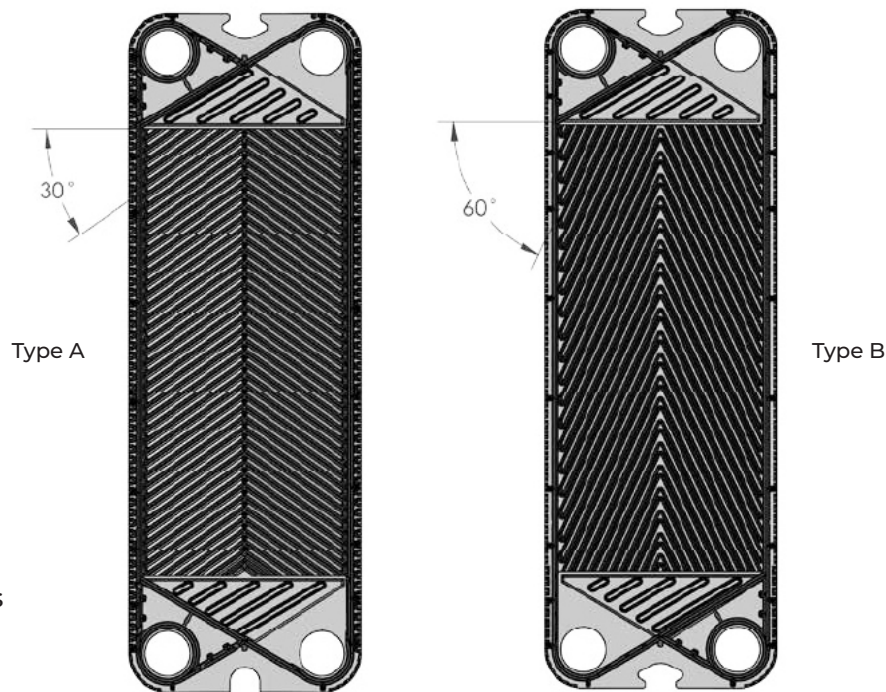

**Figure 14**
**Figure 14** shows the final page of the streaming diagram. This page provides the basic dimensions of the press. It will also list any special components that have been installed on the frame. If the frame has removable ports, the ports and part numbers will be listed on this page. Also, if the press is equipped with seismic foot pads, the installation recommendation will be shown on this page.